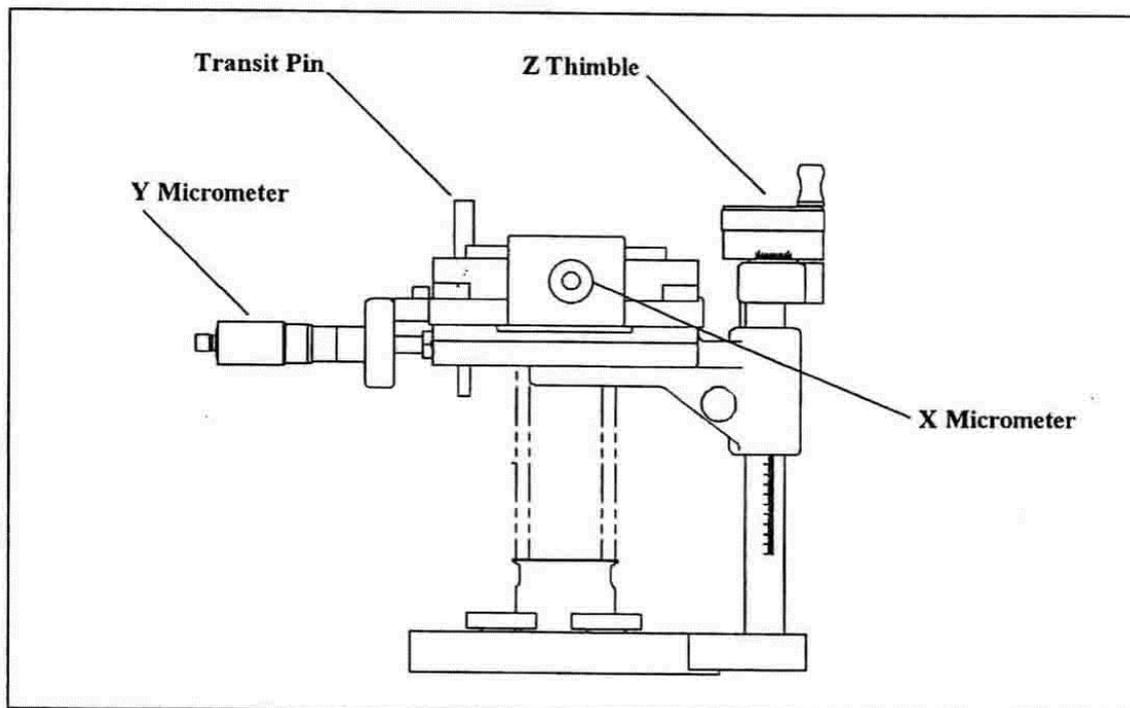

Figure 1 - Main features of the XYZ translator
- 2) Remove the transit pin (see figure 1) and remove all transit items before operating any of the controls.
The XYZ translator is shown in figure 1. The translator has been designed for ease and convenience of use. These instructions should be read in conjunction with the user instructions for any other accessories attached to the XYZ.